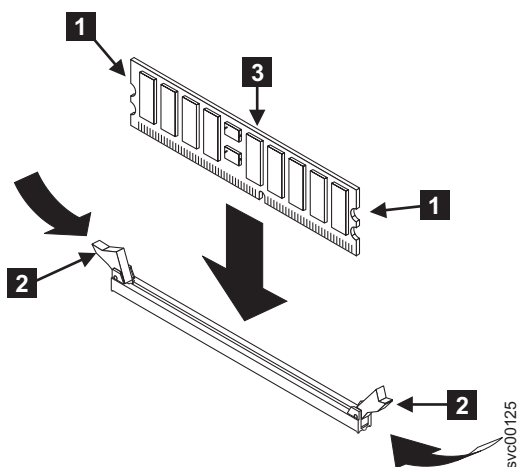

Figure 118. Replacing a memory module
1. With the clips **2** open, lower the memory module **3** into the connector, as shown in Figure 118 on page 141. Insert the DIMM fully to close the clips.